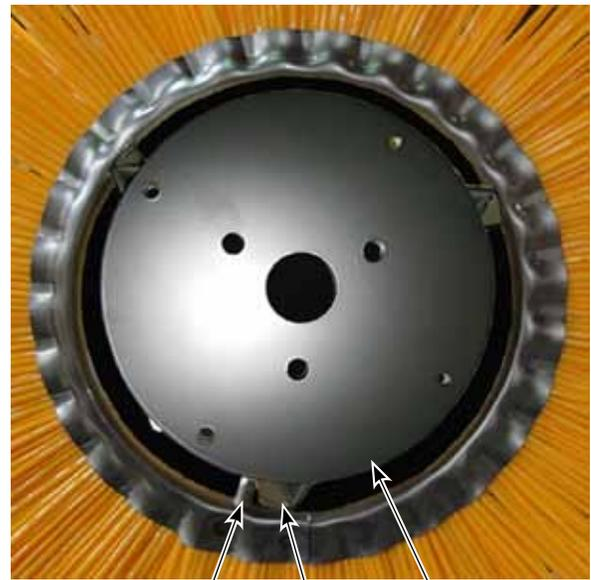

Figure 4
**NOTE:** Brush surface contact during initial operation will set all wafer drive pins up against the core stop flanges. See Figure 4.